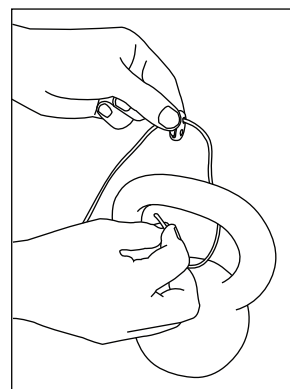

FIGURE 3
- ii. Wrap the rope around object or weight (FIG. 3)